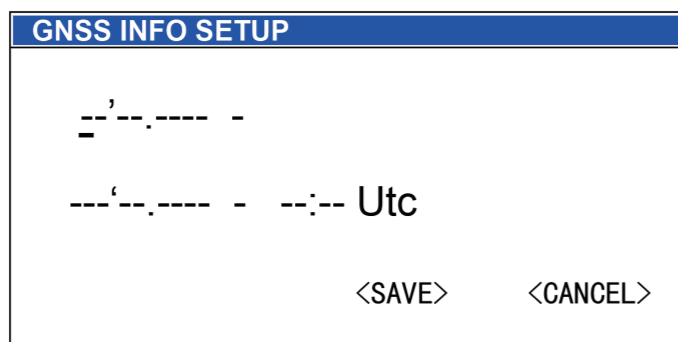

Figure 6.6.2
- a: In the "DSC SETUP" menu, select <GNSS INFO> and press [CH/ENT] to open the position settings dialog, as shown in Figure 6.6.2.